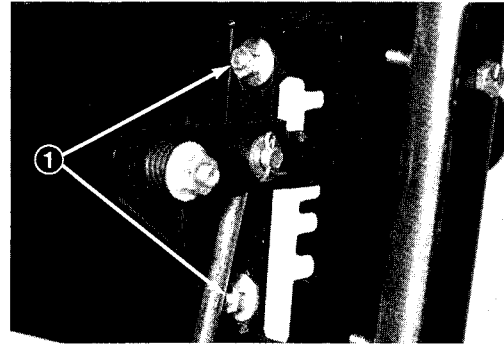

Figure 36
2. Loosen flange nuts securing selector plate to escutcheon plate. This allows selector plate to move freely for adjustment (Fig. 36).